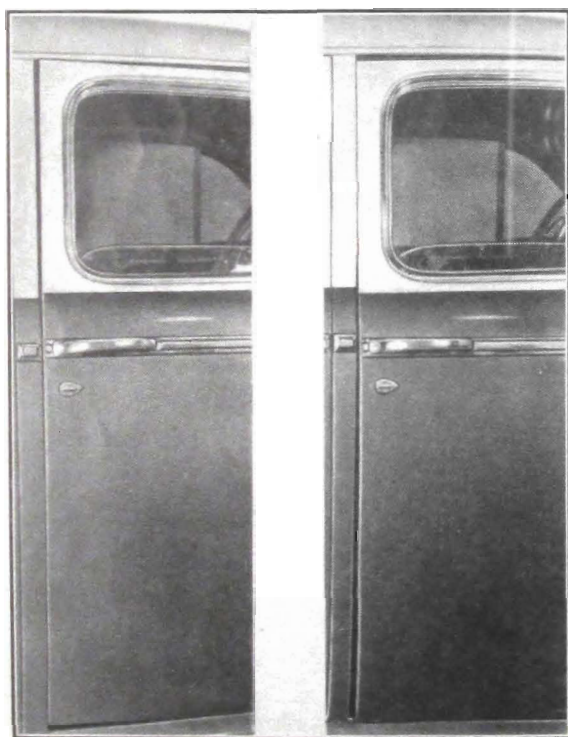

Fig. 1-89
1. Remove the dovetail wedge plate from the door to allow the door to hang free on the hinges. Close the door and check the spacing at the sides and top of door. See Figs. 1-89 and 1-90.